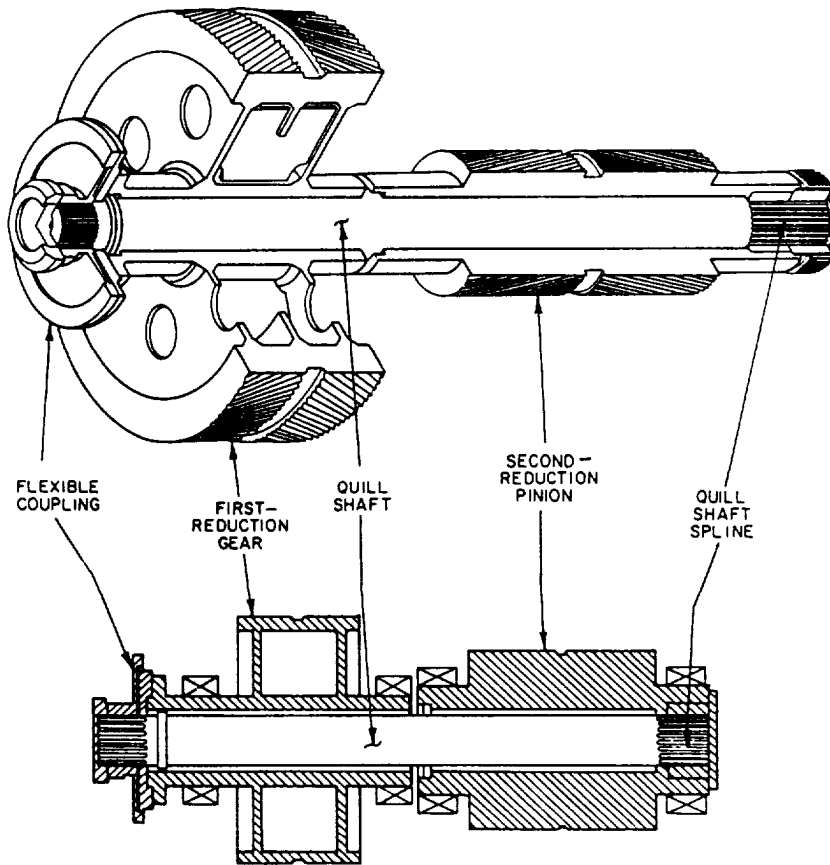

Figure 8-3.—Intermediate assembly.
First-reduction gear elements are referred to as high-speed (HS) elements and the second-reduction gear elements are referred to as low-speed (LS) elements. Figure 8-3 shows how the HS gear and LS pinion are connected by a quill shaft and an articulated flexible coupling to form a subassembly we call an **intermediate assembly**. Two intermediate assemblies provide a dual or twin torque path in the power train from each GTE. This arrangement, known as **locked train**, does not permit independent axial or rotational movement of the pinions. Each locked train must be timed to be sure that the load divides equally between the two intermediate assemblies.